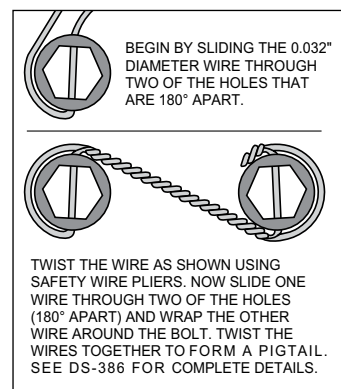

Figure 3
STEP 7 Orient the rotor (19) and the hat (20) as shown in Figure 1 and Photo 7. Attach rotor to hat using bolts (21) and washers (22). Apply red *Loctite*® 271 to the bolt threads and torque to value shown in Figure 1 using a criss-cross pattern. For an added measure of security, the bolts may be safety wired using standard 0.032 inch diameter stainless steel safety wire as shown in Figure 3. Refer to Wilwood's data sheet DS-386 (available at www.wilwood.com/Pdf/DataSheets/ds386.pdf) for complete safety wire installation instructions.